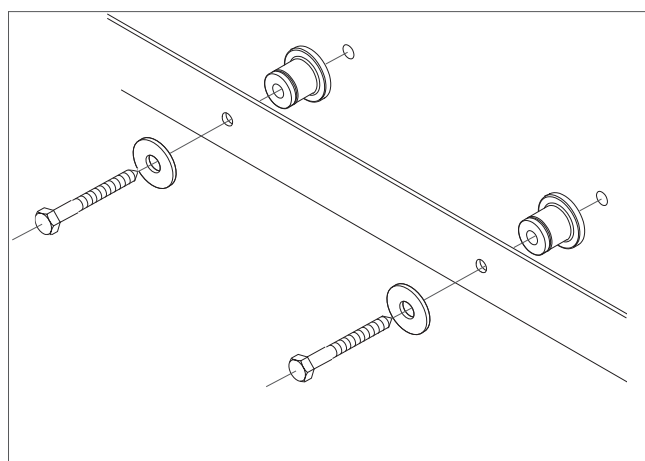

Figure 5
9. Install remaining spacers with lag screws and washers (provided) using a 9/16" socket wrench. (Figure 5). Tighten all lag screws.